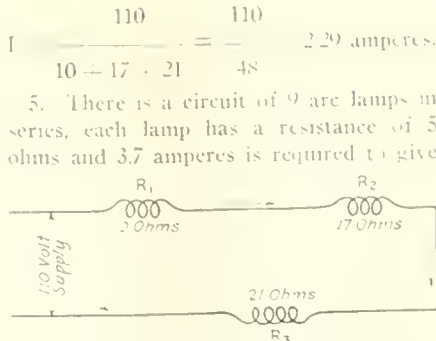

FIG. 1. SERIES CIRCUITS.
There are both series and parallel circuits encountered in electrical work and it becomes necessary to determine the current flowings or perhaps to make an analysis of the voltage-drop throughout the circuit. In the series circuit the several parts are all joined together in series, as in Fig. 1. The total resistance is, in this case, the sum of the separate resistances, and this total resistance must be obtained in order to determine the amount of current flowing.
4. Referring to Fig. 1 with three coils in series, across 110 volts, of 10, 17 and 21 ohms, respectively, what current is flowing?
At times it is necessary to know the voltage-drop across any or each of the various parts which go to make up the circuit. For instance, referring to Fig. 1 it might be interesting to know what voltage drop exists across each of the three resistances. Ohm's law can be applied to any part of a circuit. In this particular problem we know from Example 4 that there is 2.29 amperes flowing. The voltage-drop across each of the coils is then $E = I R$ and is as follows: